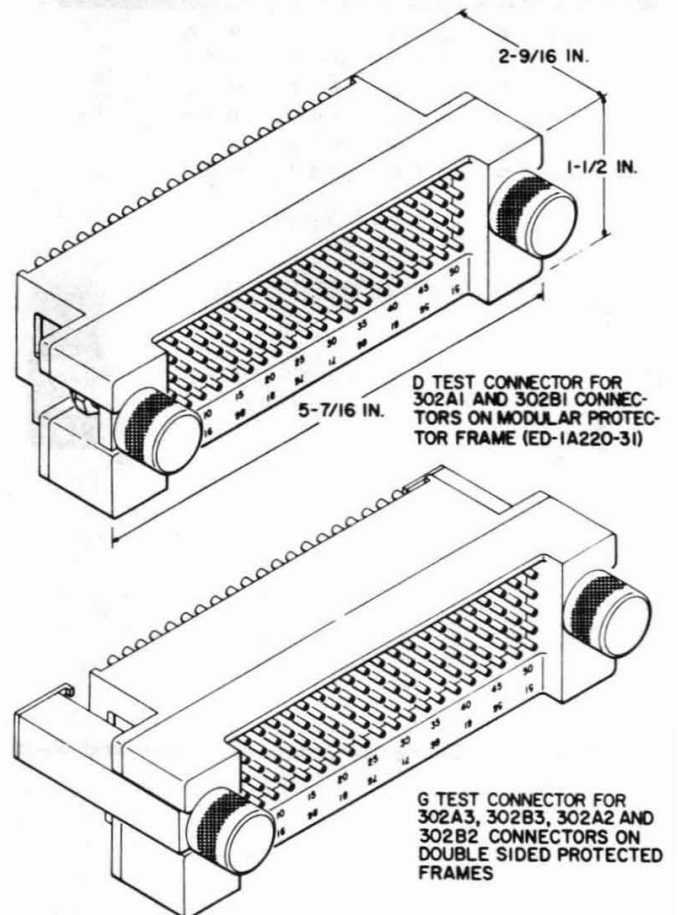
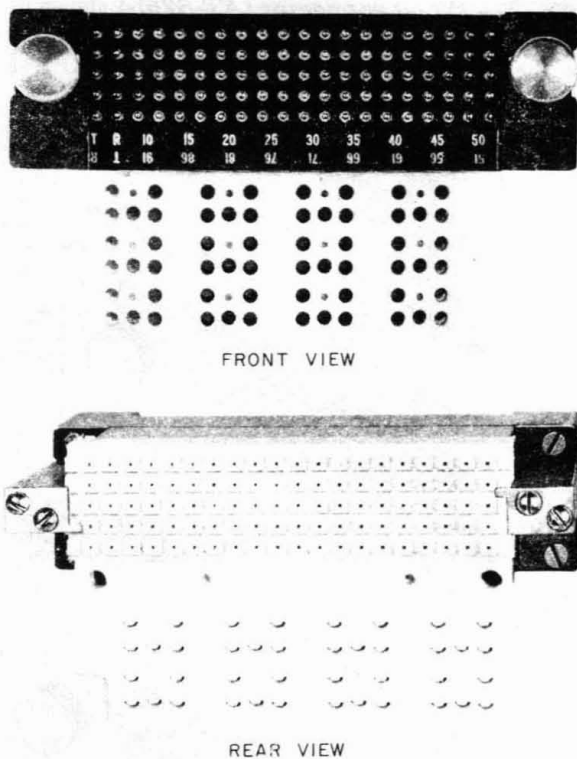

Fig. 2—D and G Test Connector
Fig. 3—G Test Connector Mounted—Front and Rear View
2.02 The D test connector (AT-8265), shown in Fig. 2, is similar to the G test connector except for the mounting arrangement (Fig. 3). The D test connector mounts on 302 type 1 connectors.